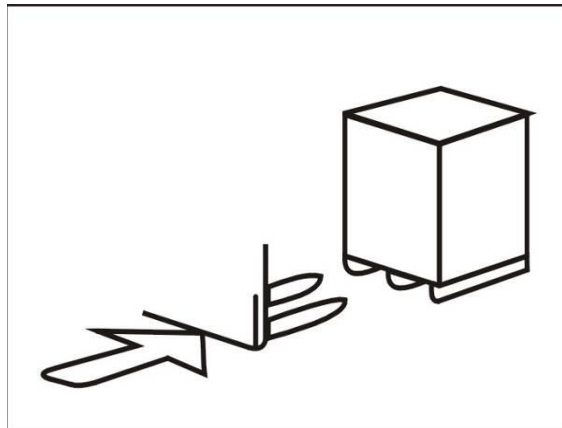

FIG3
- When transport the machine must apply the original package and place according to the mark on the package. The machine must be transported by the forklift with the corresponding tonnage (Fig3) and the stacked layer will not exceed 3 layers.